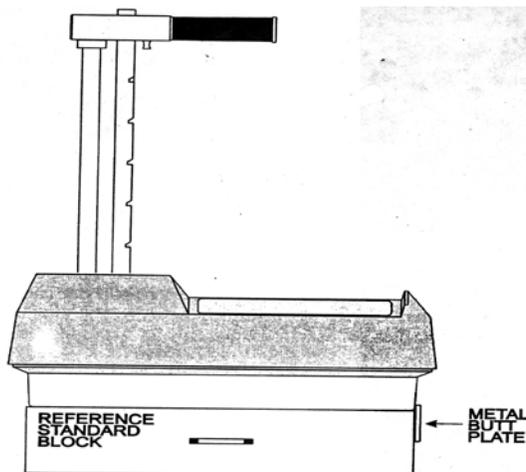

Figure 5 3400 Series Nuclear Gauge Standard Count (Troxler Nuclear Gauge Operation Manual)
6. Place the gauge on the Block and ensure the keypad side of the gauge is against the Metal Butt Plate located on the end of the Block (Refer to Figure 5).